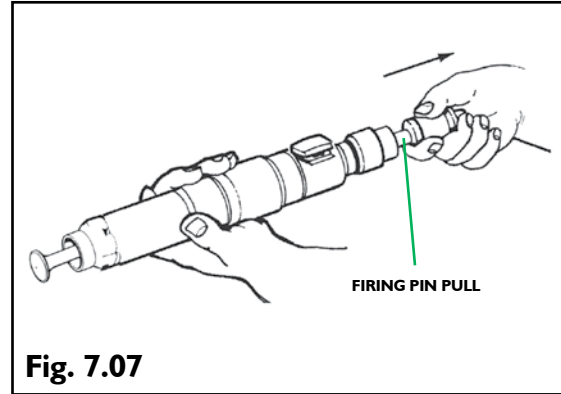

Fig. 7.07
- 3.2 With the tool facing away from you, pull the firing pin pull upwards until there is a “CLICK”, the tool is now cocked and ready to fire. (See Fig 7.07)